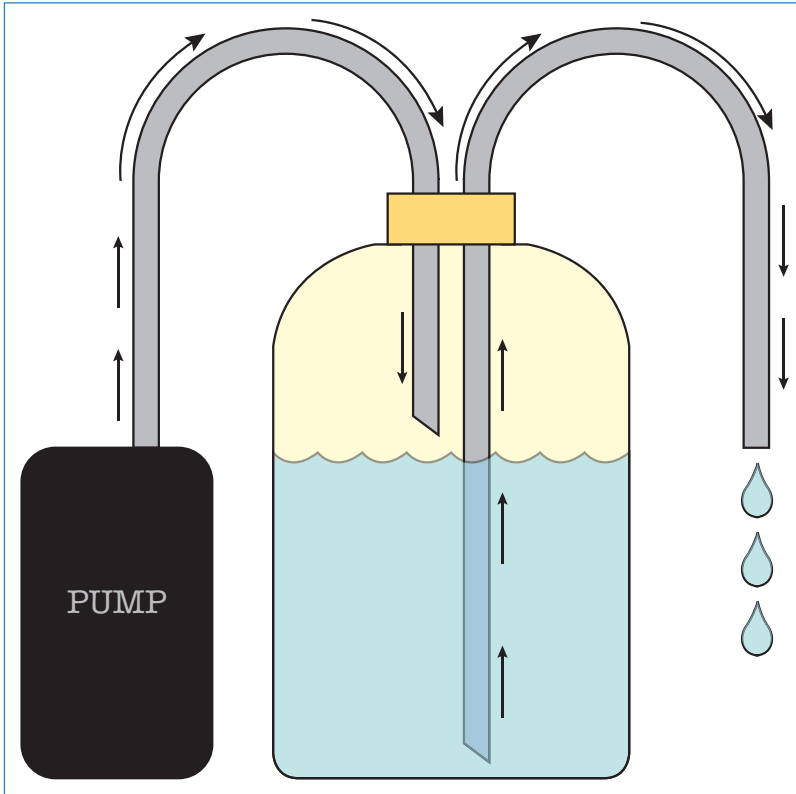

FIGURE 7.5 The pressurized reservoir displaces liquid by forcing air into the container.
Let's build an Arduino-controlled, pressurized reservoir! You'll use an aquarium bubbler to pressurize a milk jug, as shown in Figure 7.5. This forces its contents to dispense through the exit tube. Voila, a pump!
2. Thread the tubing through the holes. One tube should reach all the way to the bottom of the milk jug, whereas the other one should remain above the surface of the water. See Figure 7.5 to see how to do this.